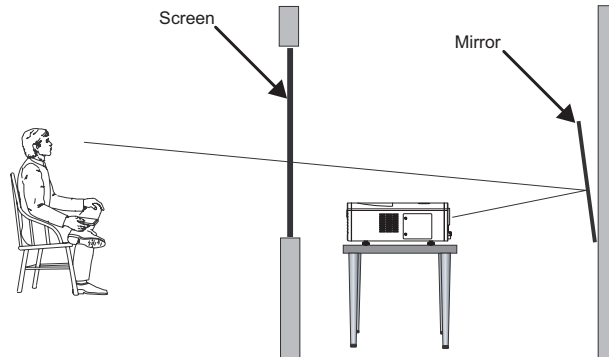

Figure 3-5. Folded Optics
- Folded Optics** ➤ In rear screen applications where space behind the projector is limited, a mirror may be used to fold the optical path, as shown in Figure 3-5. The position of the projector and mirror must be accurately set. If you are considering this type of installation, contact your dealer for assistance.